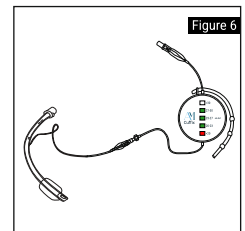

Figure 6
8. Fix the device with an elastic band (hanger) in place, so that the status of the device's indication LEDs can be observed without obstruction [Figure 6].